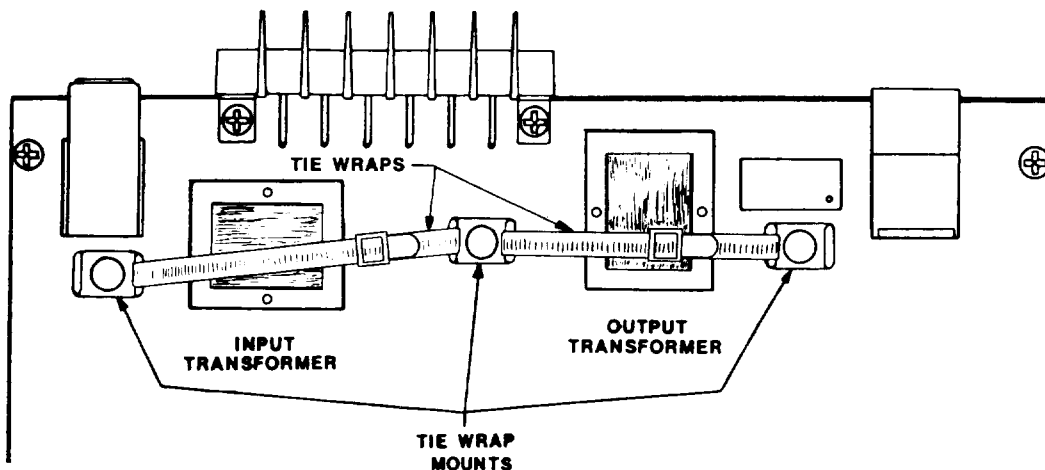

Figure 5. Installation of 15560A Transformer Tie Wraps.
6. Install the tie wrap that is included with the 15560A transformer as shown in Figure 5.